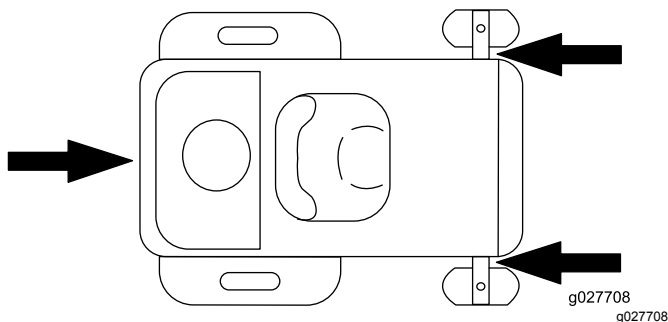

Figure 32
5. Tie down the machine near the front caster wheels and the rear bumper (Figure 32).